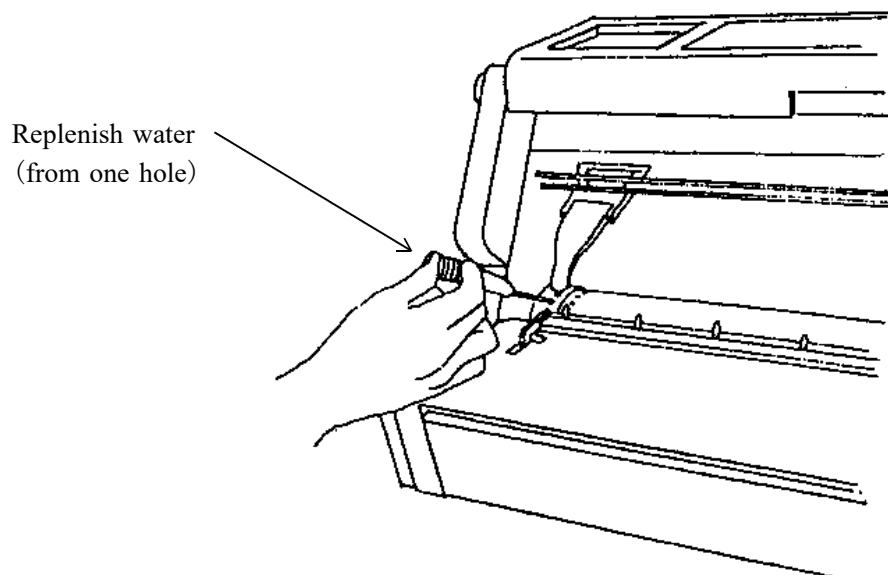

Fig. 3.3-1
- (1) Supply from a pen cap hole by the attached dropping pipet. (Refer to Fig. 3.3-1)